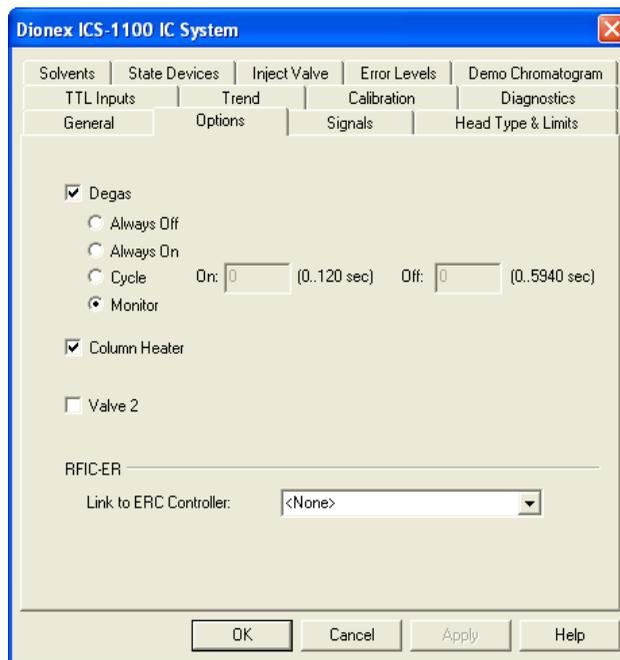

Figure 4-3. Dionex ICS-1100 Server Configuration Properties: Options
2. Select the **Options** tab (see Figure 4-3).